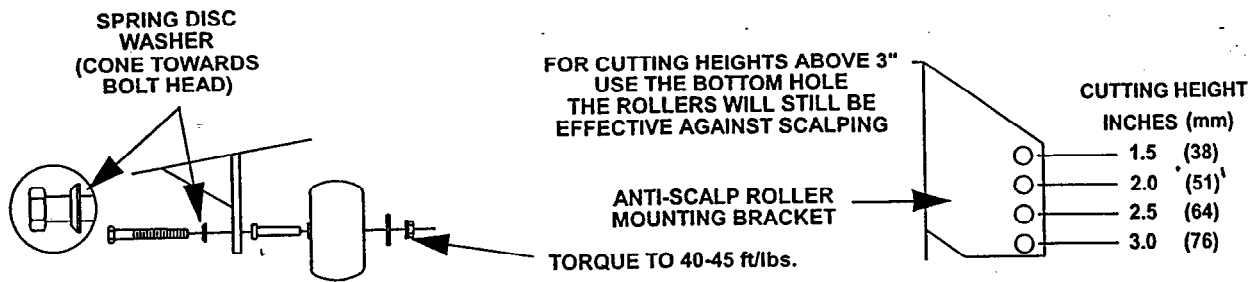

FIG 18
- 1) For maximum deck flotation, rollers should maintain 1/4-1/2 in. clearance to ground. Do Not adjust rollers to support the deck. Be sure roller bolts are tight or loss of roller may result (See Figure 18).